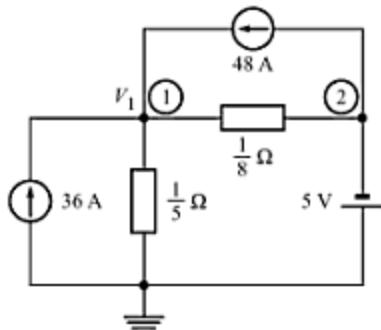

Fig. A-101
- A-65.** Determine the node voltages V_1 and V_2 in the circuit of Fig. A-101.